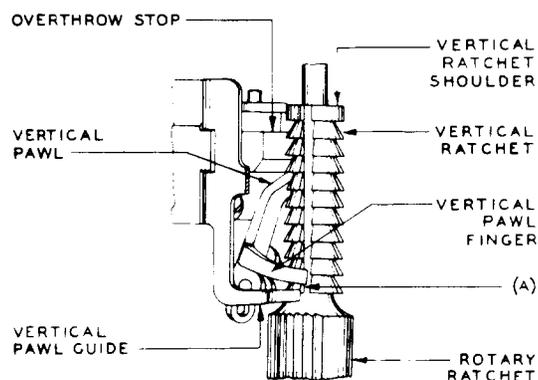

Fig. 16—Relation of Vertical Pawl to Vertical Ratchet
**3.22 Clearance Between Vertical Pawl Finger and Vertical Pawl Guide:** Just as the shaft starts to move vertically under control of the vertical armature (Fig. 16, location A), the clearance between the vertical pawl finger and the vertical pawl guide shall be a minimum of 0.007 inch to test and a minimum of 0.010 inch to readjust. *Use the KS-6909 gauge.*